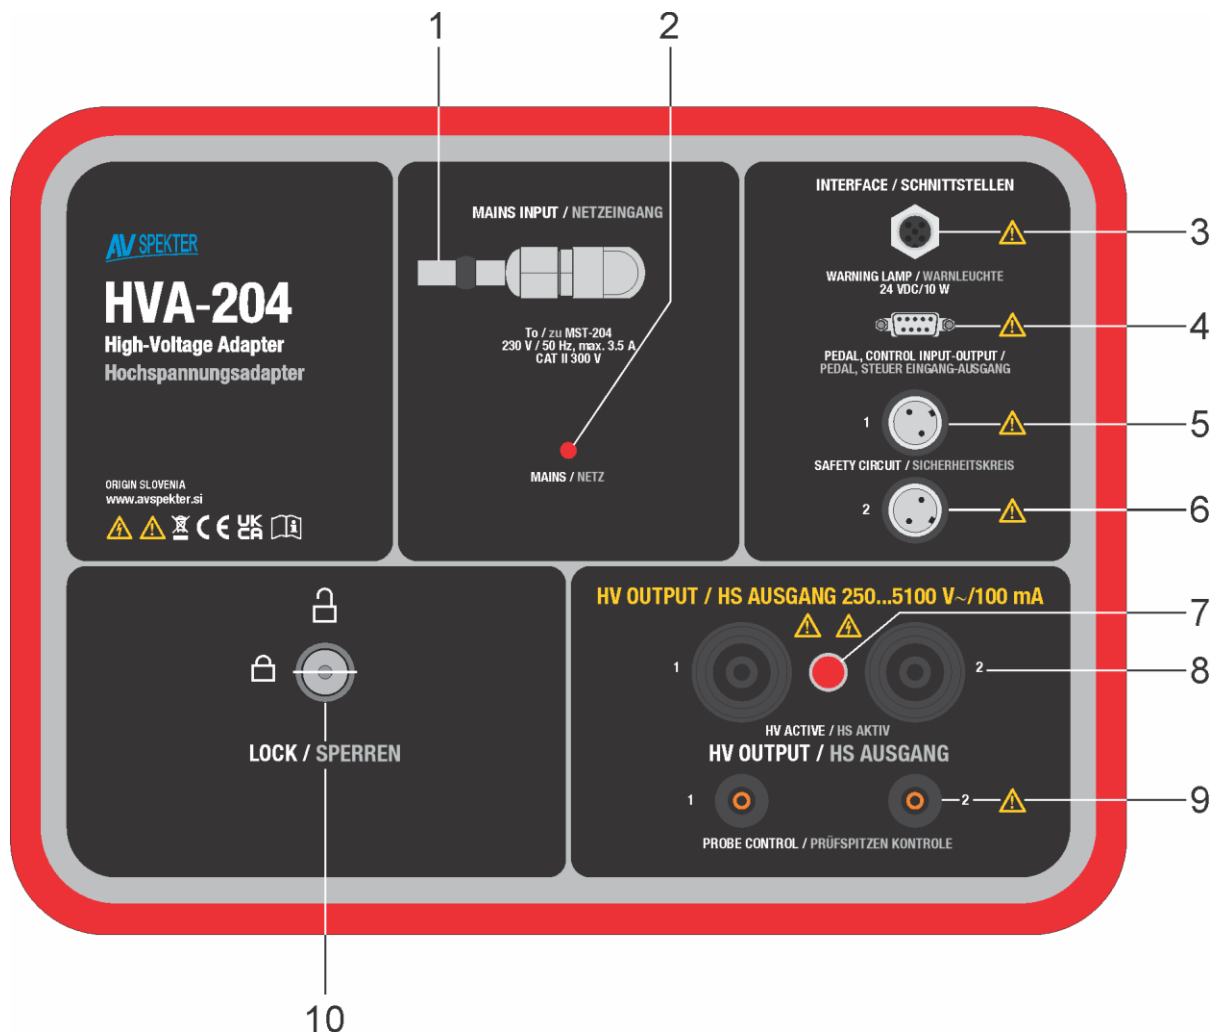

Figure 2: Operational elements and connectors on HVA-204 Adapter
- 4) The HVA-204 Adapter is energized when red MAINS pilot lamp is ON (figure 2, detail 2).
15. WARNING LAMP SOCKET (figure 2, detail 3)
16. PEDAL, CONTROL INPUT-OUTPUT SOCKET (figure 2, detail 4)
17. SAFETY CIRCUIT 1 & 2 SOCKETS (figure 2, details 5 and 6)